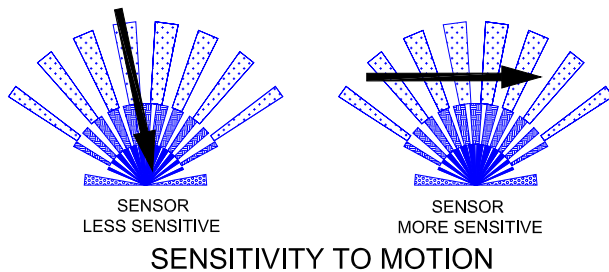

FIGURE 4
4. Where possible, mount the Alarm on the flat wall at a 1.5m height so that the logical path of an intruder would cut across the fan detection pattern. PIR Alarm responds more effectively to movement across the device than to movement directly towards it. (FIGURE 4)